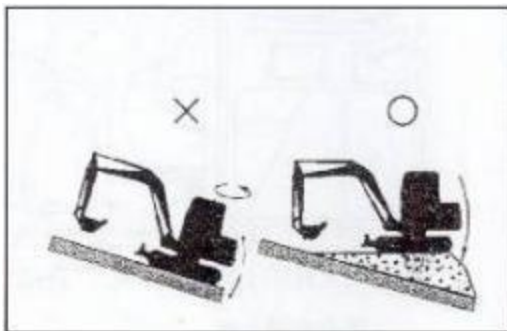

Fig3-15
- In unavoidable circumstances, fill the slope first so that the machine can work on a horizontal surface as much as possible, see Figure 3-15. To avoid rollover, do not walk on a slope of more than 30 degrees.